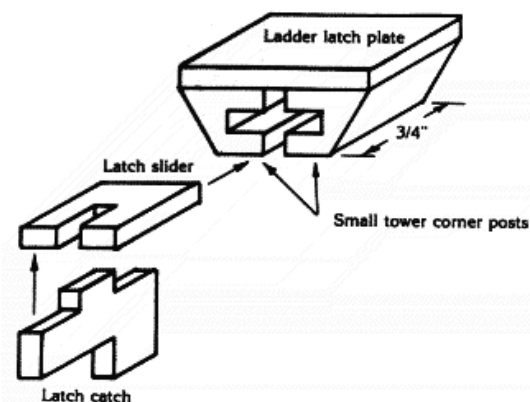

FIGURE 40
2. Assemble latch. Glue the two 3/4" lengths of small tower corner post to latch plate. Figure 40. Glue latch catch to latch slider. Slide (no glue) latch slider into latch plate assembly.